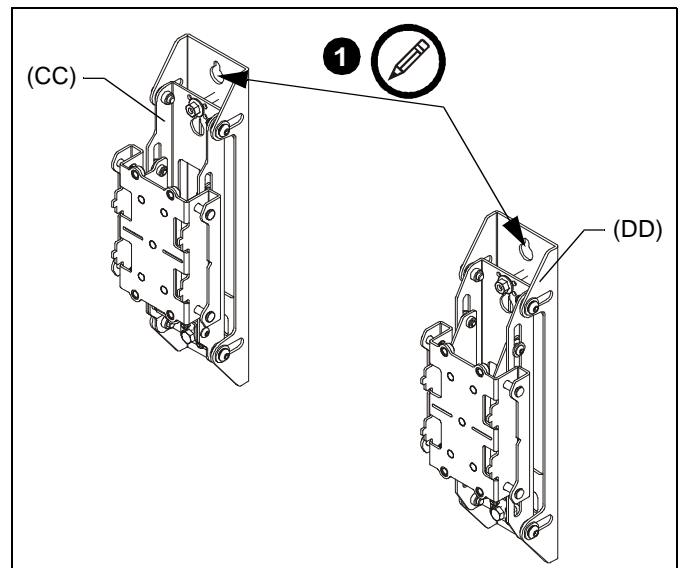

Figure 7
1. Use the outside wall upright (CC) or center wall upright (DD) as a model to mark upper and lower pilot hole placement for 2 outside wall uprights (and center wall upright for LWM4X1 or LWM5X1 models) following wall placement information in Figure 1 and Table 1. (See Figure 7)